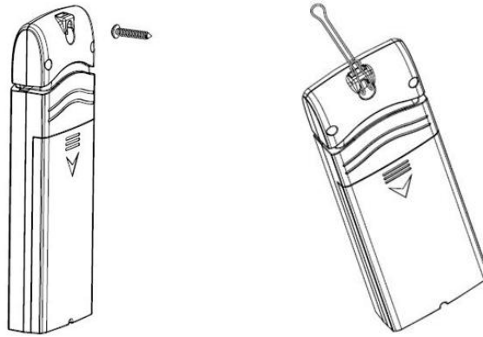

Figure 19: Indoor sensor mounting
- Use a screw or nail to affix the remote sensor to the wall, as shown on the left side of Figure 19, or